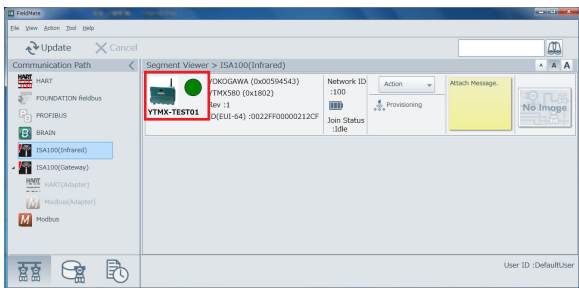
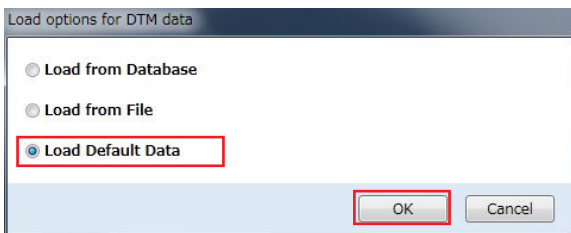

Figure 10
Figure 11
- ② As shown in figure 10, the icon of the detected YTMX appears in the Segment Viewer. Double-click the icon. In the dialog box that appears (figure 11), select the Load Default Data option, and then click OK to start DTM Works.